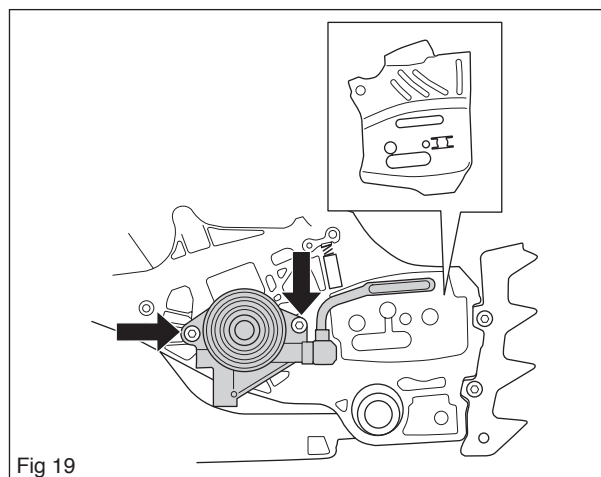

Fig 19
Unscrew the chain guide plate. See figure 19.
- 1 Lower the oil filter in place and replace the oil pump as outlined in figure 19 and tighten the screws.